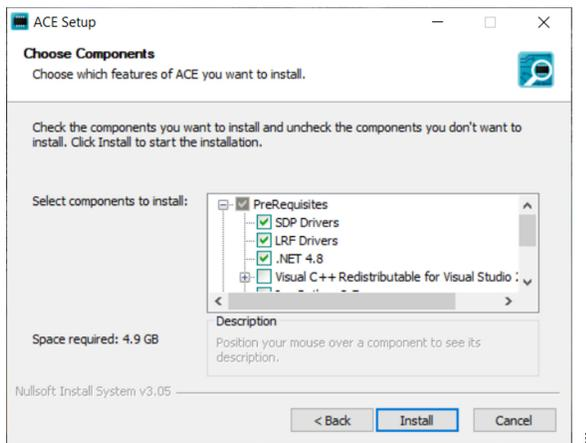

Figure 3. Required Driver Installations with the ACE Software
3. Install the latest version of the **ACE Software** from the **ACE Software** page. During installation, ensure that the **SDP Drivers**, **LRF Drivers**, and **.NET 4.8** components are selected (see Figure 3).